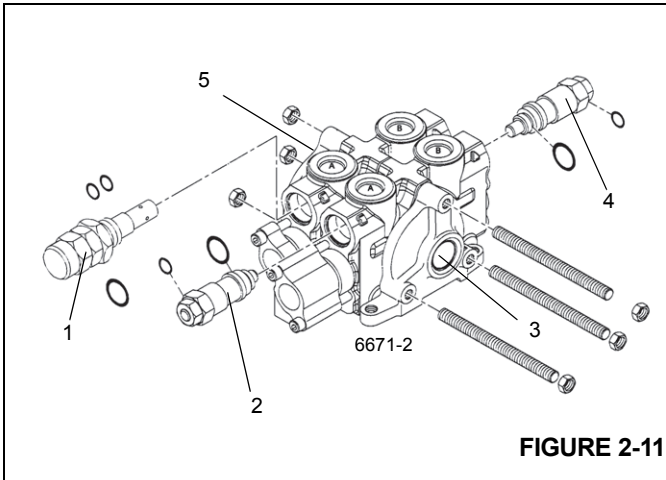

FIGURE 2-11
1. Install pressure check diagnostic quick disconnect with gauge onto test nipple at swing valve inlet test port (Figure 2-11).